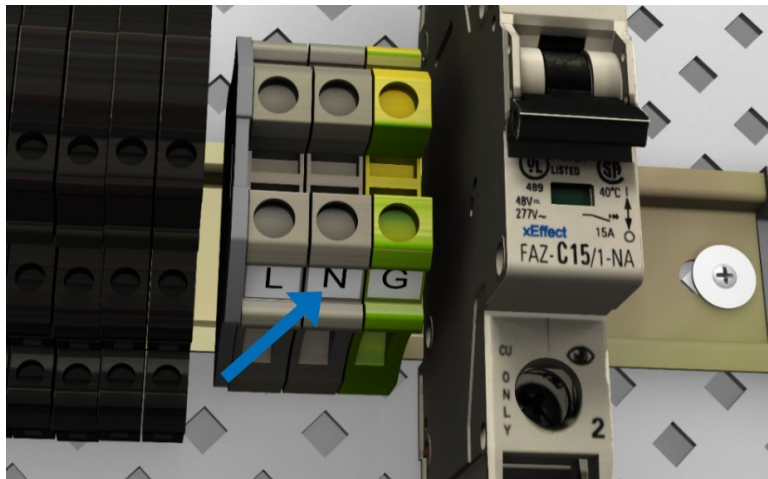

FIGURE 6-6. Applying labels
6. Apply any labels needed to identify specific connections (FIGURE 6-6 (p. 12)).